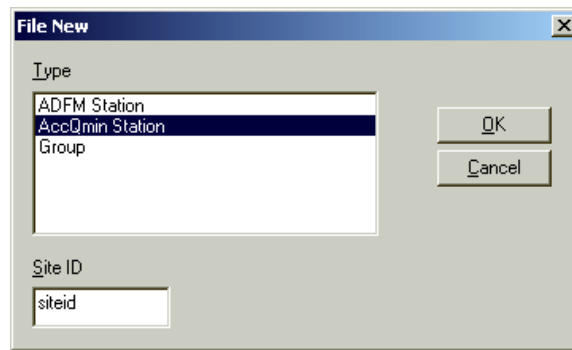

Figure 2-8 Creating a new Station file
1. Start the *WinADFM* software. Create a Station file (application programming file) by selecting File > New. Select accQmin Station (Figure 2-8).